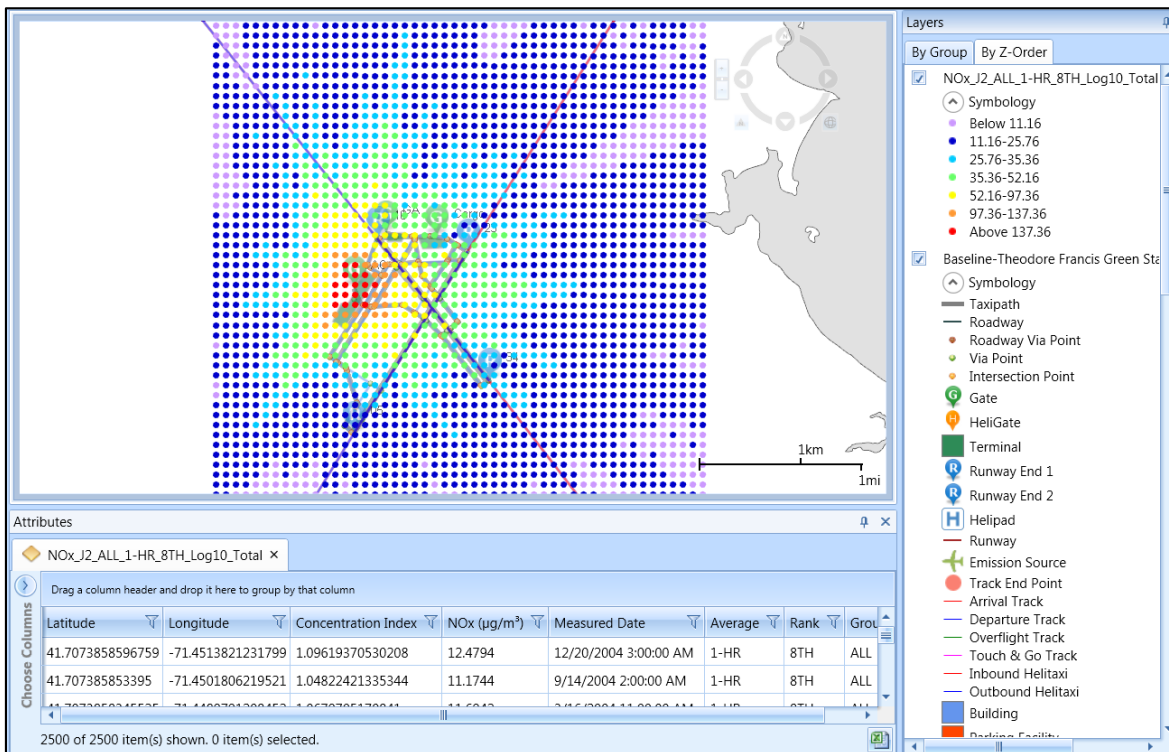

Figure 5-37 Sample Pollutant Concentration Layer with Attributes- shown with Airport layers
6. Click *OK* to generate and display the concentration layers on the map (Figure 5-37) and in the *Layers* manager.
The following attributes are available for all pollutant concentration layers: latitude, longitude, concentration index, pollutant, measured date, average, rank, and group (Figure 5-37). See Appendix B.3 for descriptions of the attributes.